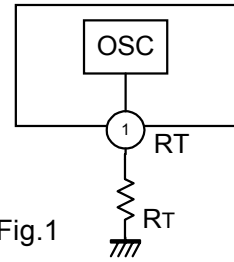

Fig.1
The oscillator of FA7703/04 generates triangular waveforms by charging and discharging the built-in capacitor. Any desired oscillation frequency can be obtained by setting the value of the resistor connected to RT terminal (Fig. 1).
As described in “(2) Oscillator” of “Description of each circuit”, any desired oscillation frequency can be obtained by setting the value of the resistor connected to RT terminal. (Fig. 1) The desired oscillation frequency should be set between 50kHz and 1MHz. The oscillation frequency to RT can be obtained from the chart of “Oscillation frequency vs. timing resistor” characteristic curves or by calculating with the formulas below.